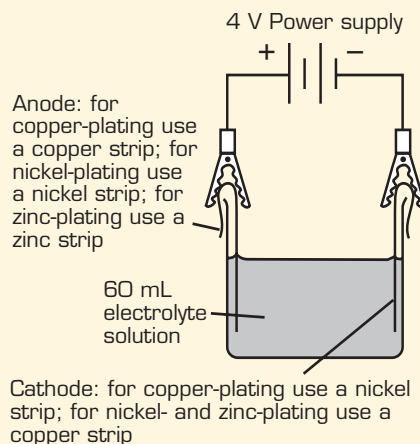

figure ec.11 Circuit for electroplating.
- 1 Your teacher will tell you which electroplating cell to construct first. Refer to figure ec.11 to determine which metal strips to use for the anode and cathode of the cell. (For nickel- and zinc-plating cells, use a copper strip as the cathode so that the metal deposit can be seen more clearly; use a nickel strip as the cathode in the copper-plating cell.) Before constructing your cell, clean the electrodes with a scourer.
- 3 Construct the electroplating cell and electric circuit as shown in figure ec.11.